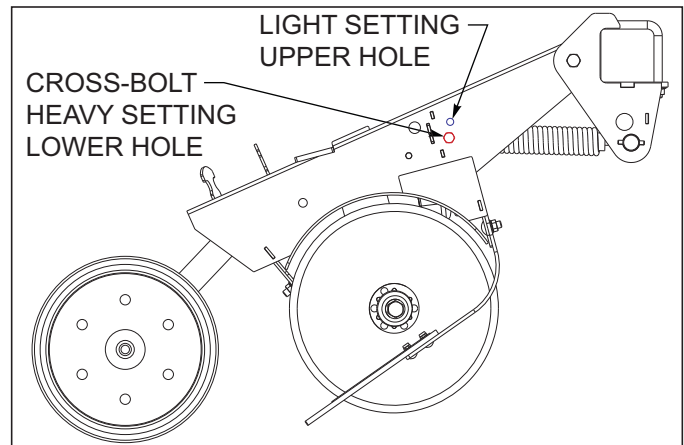

Figure 4-27: Spring Opener Assembly
2. The spring opener has two spring settings for light or heavy down pressure **See Figure 4-27**. The lower spring mounting hole at the rear of the spring is the heavy setting, and the upper hole is the light setting. The light setting will be approximately 10% lower than the heavy setting. To change the spring pressure setting, raise the opener slightly off the ground to relieve the spring pressure. Remove the ½-13 x 3-3/4 cross-bolt through the rear of the spring assembly. Move the spring to the desired setting and reinstall the cross-bolt.